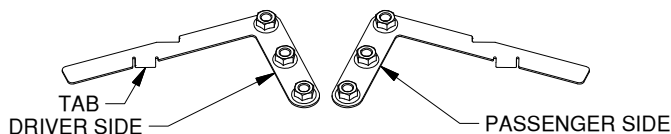
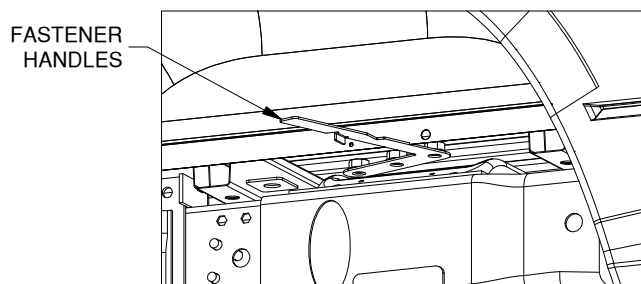
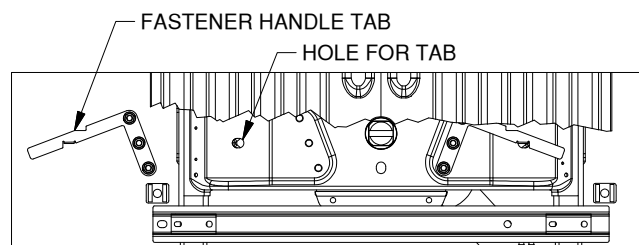

Figure B2: Fastener handles.
Figure B3: Looking at passenger side wheel well.
Figure B4: Cutaway view looking down into bed.
2. **Install fastener handles.** Identify the driver and passenger side fastener handles by comparing the parts to figure B2. Place the fastener handles between the frame cross member and the bed on their respective sides, see figure B3. Use the handle welded to the nuts to guide them into place. Once the nuts are positioned, lower the handle so that the tab on the bottom side of the handle fits in the hole as shown in figure B4. This will help guide the nuts into position while the center section is installed. Make sure that the three nuts are directly over the holes in the frame.